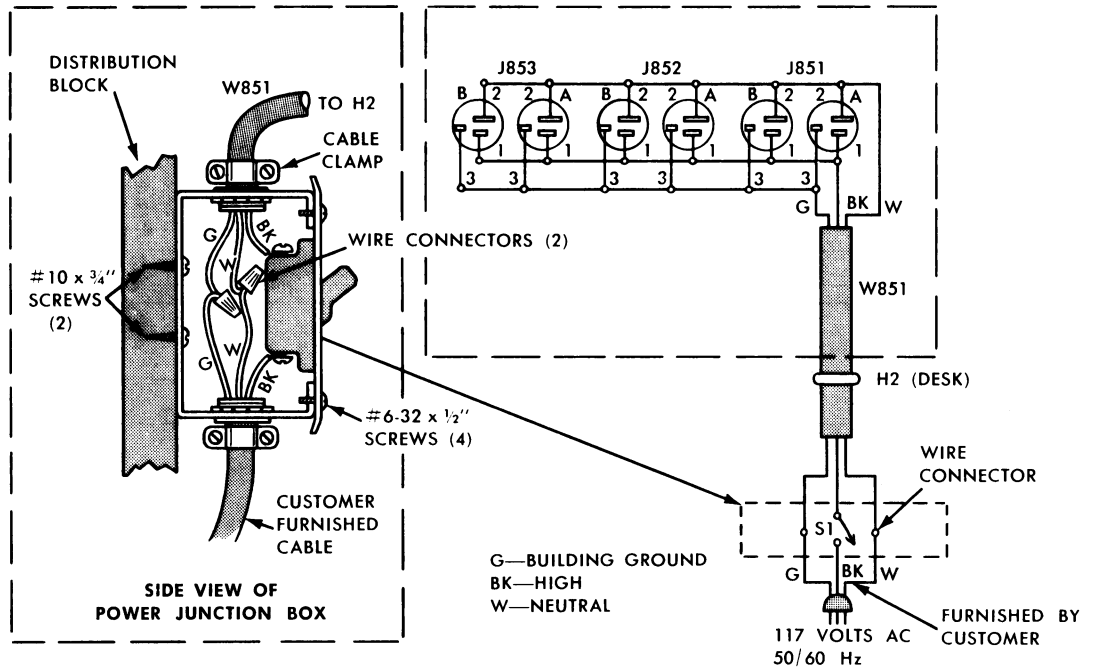

Figure 4 - Power Cable and Junction Box Installation
5. Remove an end "knockout" on the power junction box. Then orient the box so that the hole is up, and mount the box to the distribution block using two #10 x 3/4" threadforming screws (see Figure 4).
6. Install the cable clamp in the hole at the top of the junction box. Connect three-wire power cable (routed from the console turret through H2 in the desk) to the power junction box as shown in Figure 4.